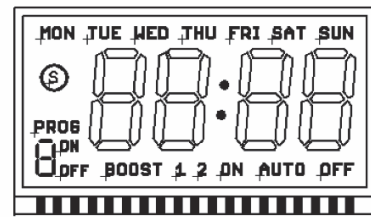

Figure B-2: Full display
2. A full display will show when the battery is charged, then revert to the default screen (- - : - -). No display indicates that the battery requires charging for a minimum 3 hour period. See Figure B-2 for a representation of the screen's "full display".